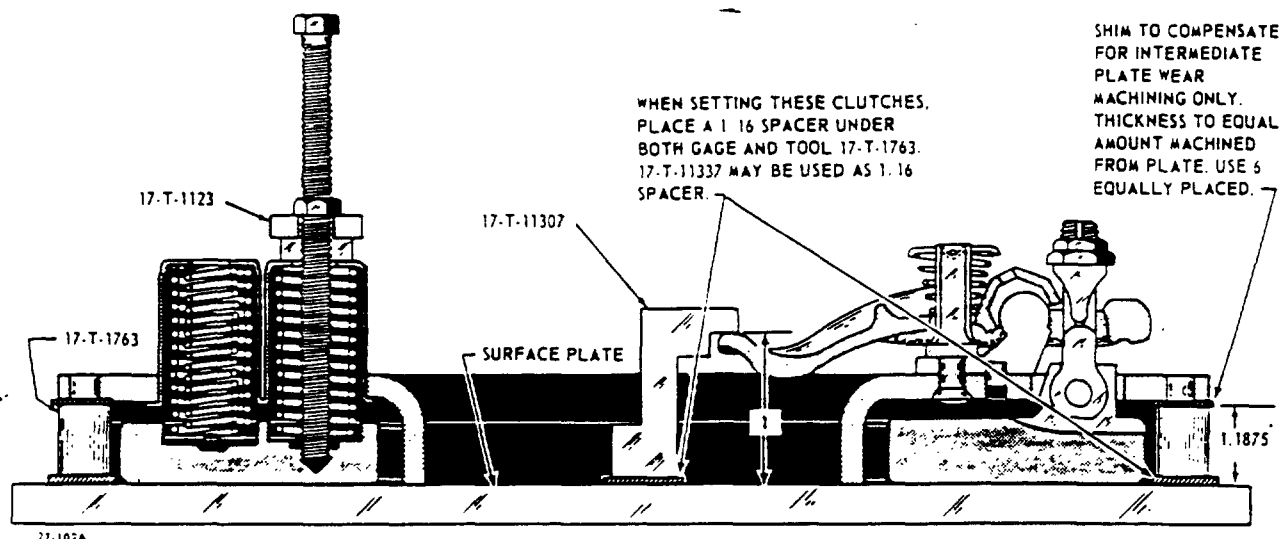

Figure 4-20. Method of Setting Clutch
3. Place the cover in position, align the springs in the pockets. Bottom the screws of the three spring retention tools into the threaded holes of the pressure plate and bring the tool nuts down snugly against the tool bracket. Tighten the tool nuts alternately, one turn at a time, guiding the pressure plate lugs into the clutch cover holes until the inside face of the cover is 1.1875 inch from the face of the pressure plate. Special tool (17-T-1763) and a 1/16 inch spacer (17-T-11337), is used to facilitate obtaining this dimension. See Figure 4-20.
To compensate for this condition, shims of appropriate thickness must be inserted between cover and spacers (17-T-1763) while the clutch is adjusted. Measure thickness of the intermediate driving plate which will be used with clutch being adjusted and compare with new thickness as shown in specifications. If plate is .010 inch or more below new thickness, secure shims equal in thickness to amount of metal removed and insert them between clutch cover and spacers (17-T-1763) at equally spaced intervals. See Figure 4-20.
press, and insert the washer lock pins. Install the fulcrums and adjust the nuts until the distance between the convex surface of each lever to the pressure plate (dimension (1), Figure 4-20) agrees with specifications. Special tools (17-T-11307) and a 1/16 inch spacer (17-T-11337) are used to facilitate obtaining this dimension. See Figure 4-20 showing use of these tools. Torque eyebolt locknut 40 to 45 lbs. ft. Install the thrust washer on the release levers and lock it in place with the snap ring.